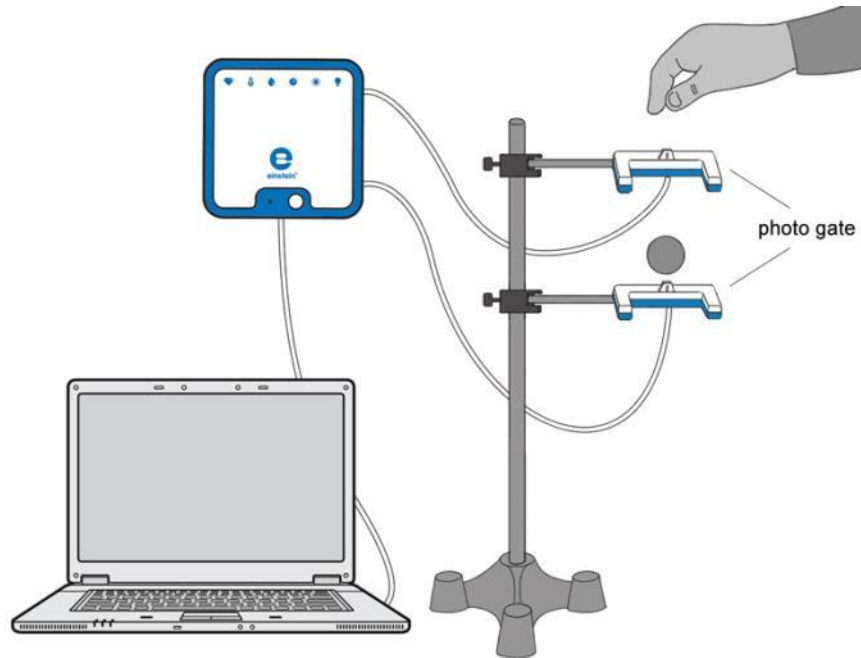

Figure 1
2. If there is significant friction between the cart and the plane, the cart will move up and down the plane with different accelerations. Measure α the angle of inclination of the plane (see Figure 1) and the acceleration when the cart is moving downwards in order to calculate the friction coefficient between
2. Assemble the equipment as shown in Figure 1.